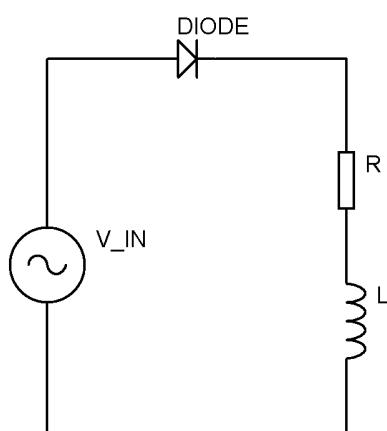

Figure 2. Half bridge rectifier with inductive load
1. Arrange the circuit as shown in Figure 2.